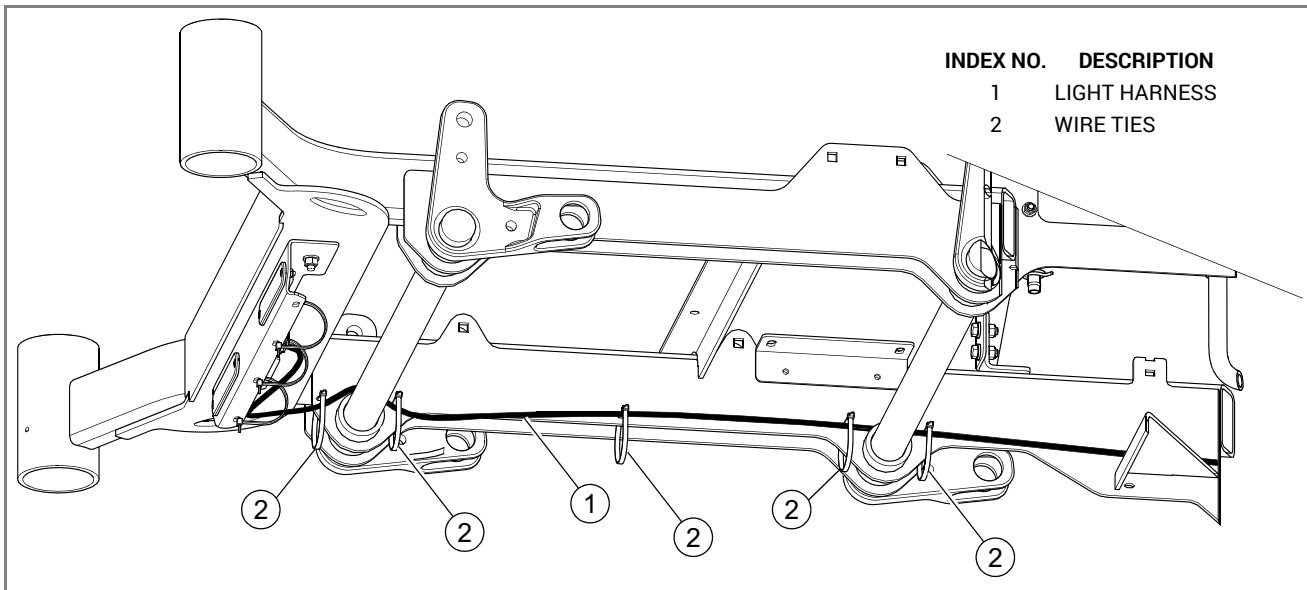

FIG. 5
6. Route the light harness along the inside of the right frame. Insert the wire ties through the holes in the mower frame and loosely secure the light harness in place with the wire ties. FIG. 5